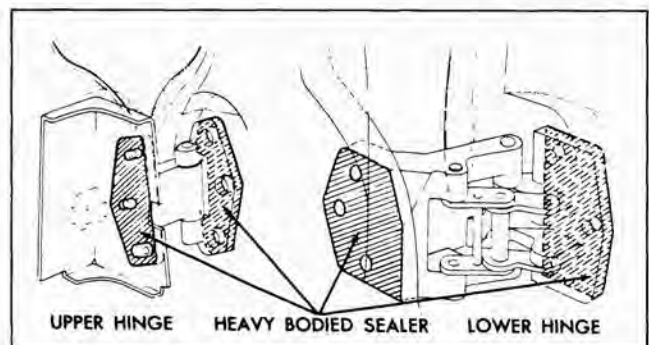

Fig. 3-36 Rear Door Hinge Sealer
2. Apply a coat of heavy-bodied sealer to attaching surfaces of hinge straps or corresponding surfaces of door or body (Fig. 3-36).